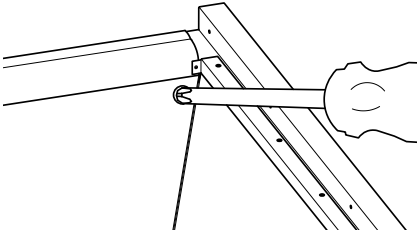

Figure 1 - Remove Upper Firebox
1. Remove upper firebox by unscrewing left and right screws on the firebox (see Figure 1).